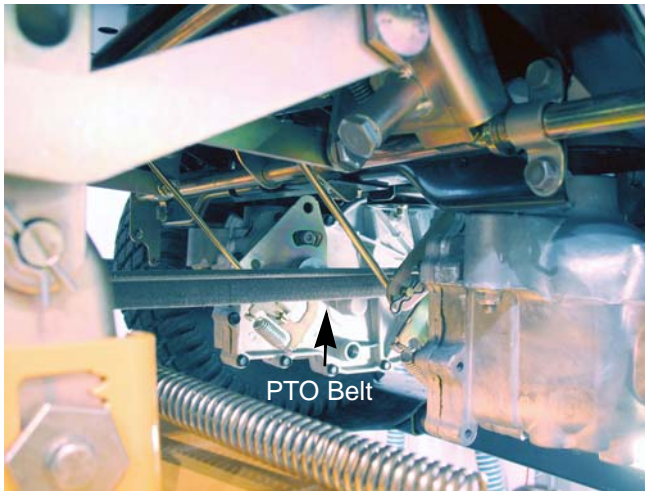

Figure 8.9
1. Locate the longest straight section of the belt. It should be the section from the PTO pulley to the deck. See Figure 8.9.